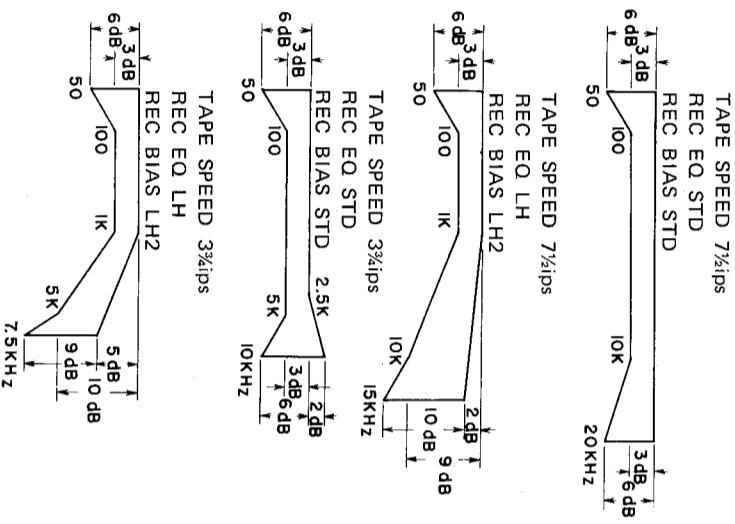

Fig. 19
3. Keeping the LINE recording level control, attenuate the input level down to 20dB with attenuator to record the 1kHz and 15kHz and to play back simultaneously. The output level in step 3 must fall within the specified response range as shown in Fig. 19.
5. Apply following input signals as 50, 100, 250, 2.5k, 5k, 10k, 15k and 20kHz. Check to make sure the output levels are made within the specified response ranges as shown in Fig. 19 at simultaneous recording and playback.